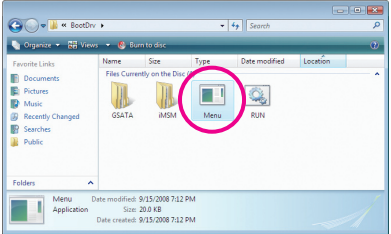
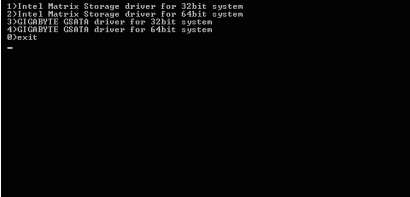

Figure 3
Figure 4
- 2: From your optical drive folder, double click the **Menu.exe** file in the **BootDrv** folder (Figure 3). A Command Prompt window will open similar to that in Figure 4.
- 3: Insert the blank formatted disk. Select the controller driver by pressing the corresponding letter from the menu. For example, from the menu in Figure 3,